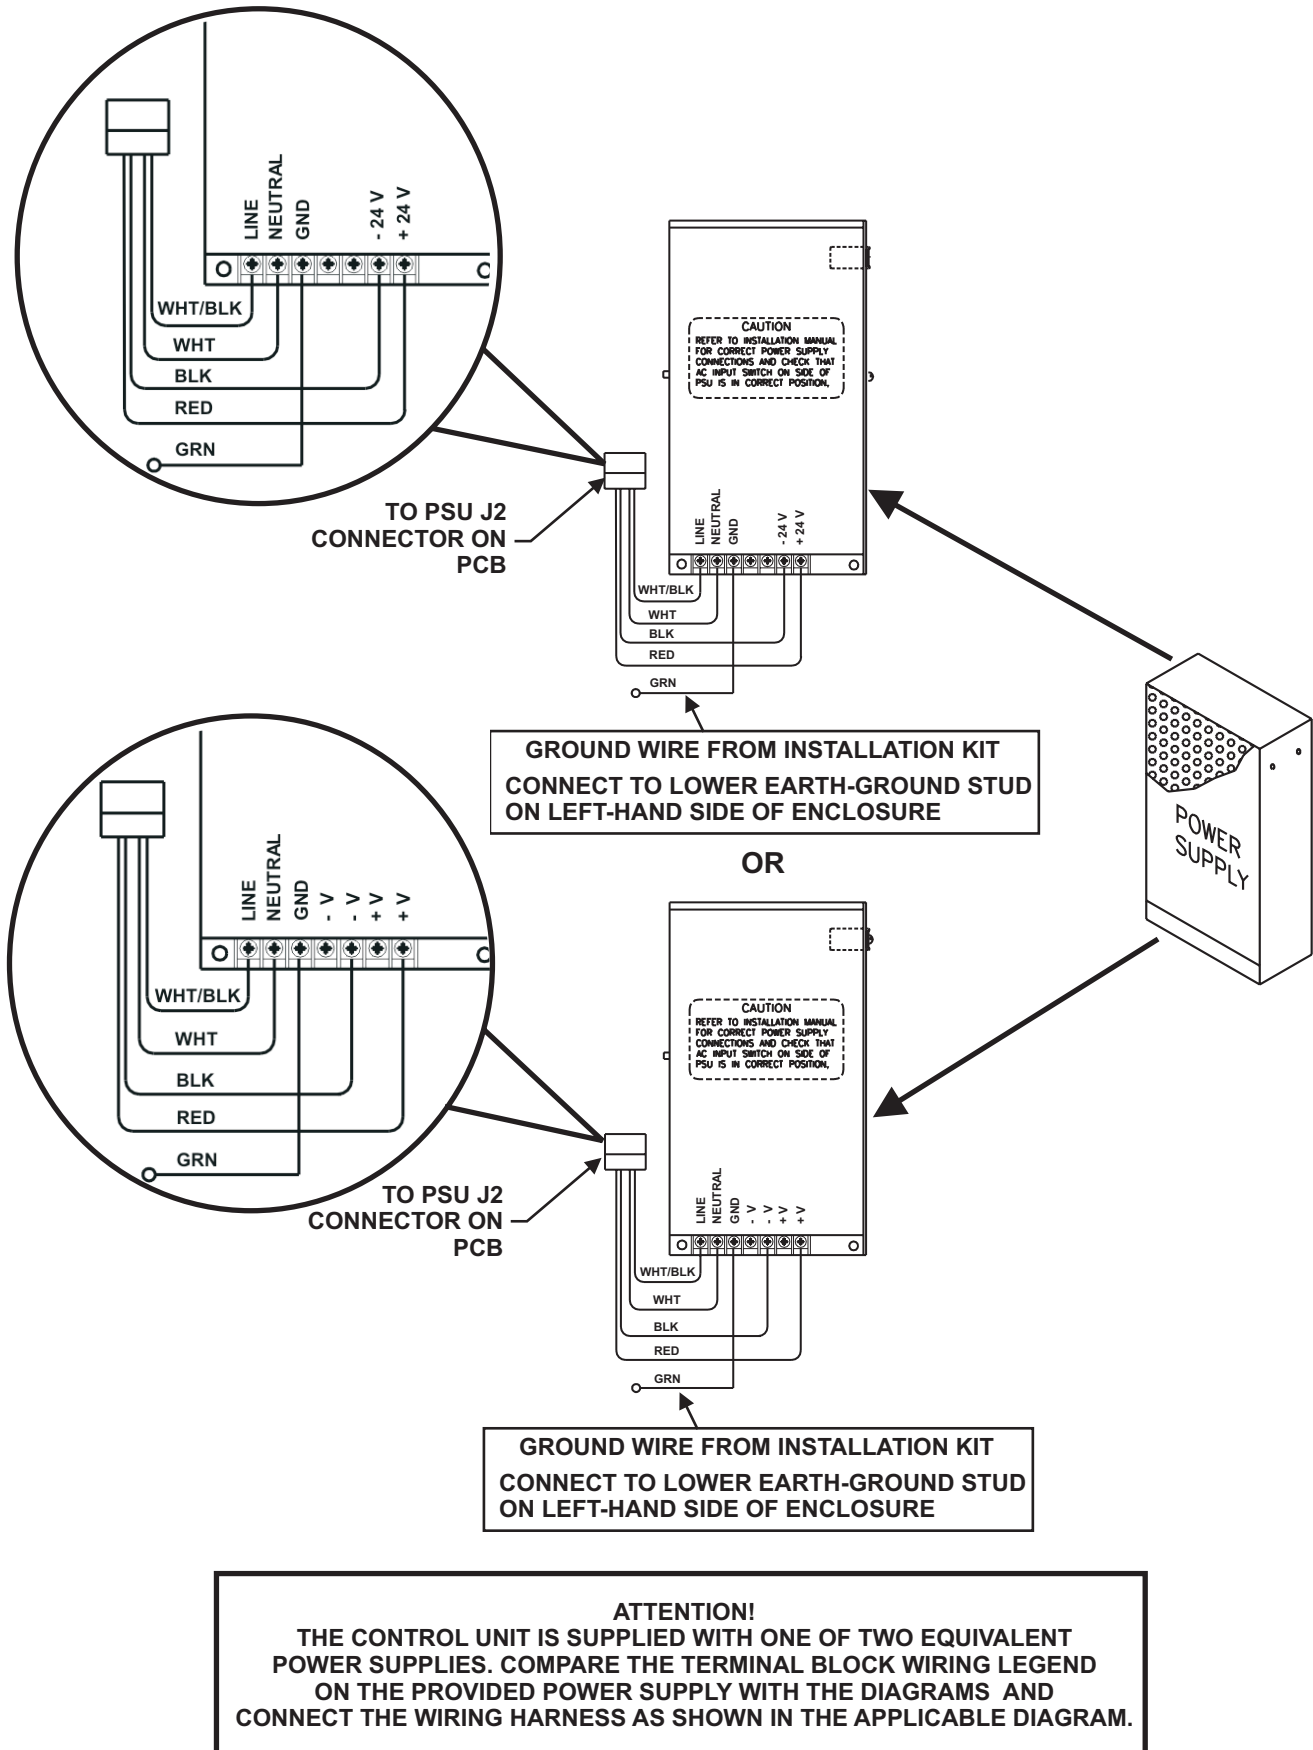
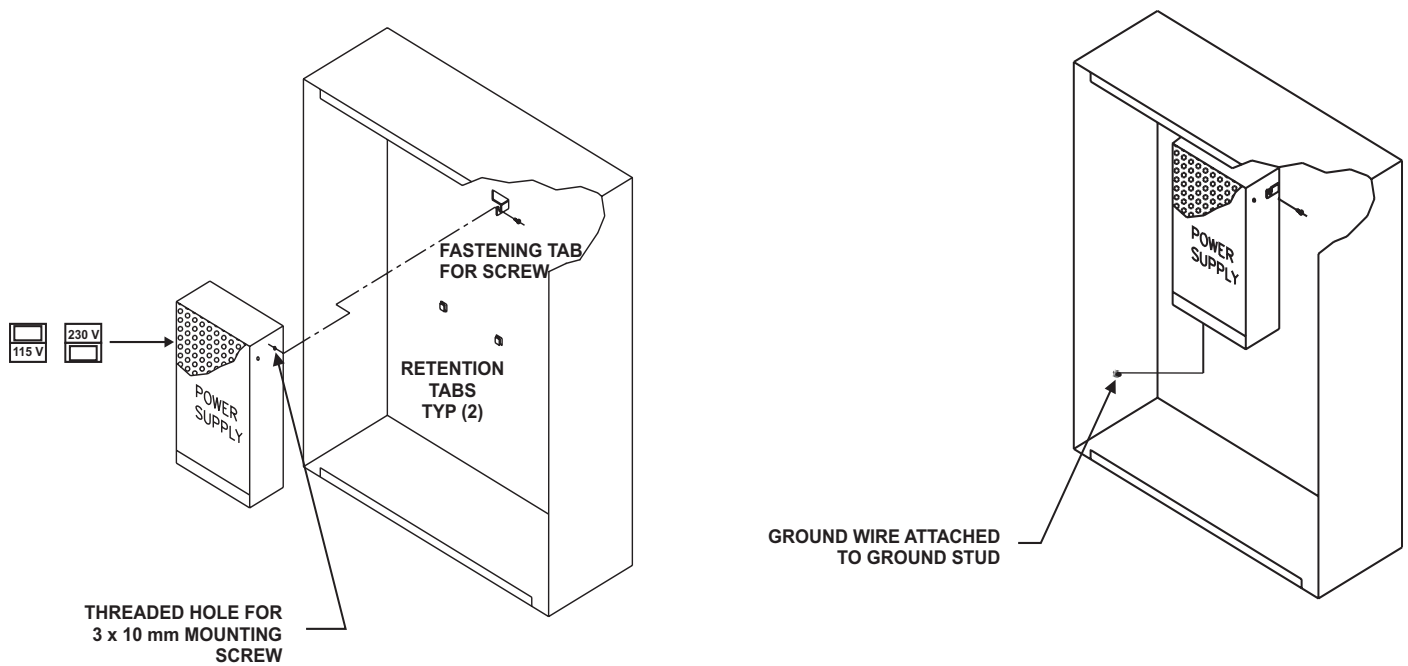

Figure 2-6. Power Supply Unit Wiring
Figure 2-7. Power Supply Unit Installation
3. The AEGIS unit is supplied with one of two equivalent power supplies. Compare the terminal block wiring legend on the provided power supply with the diagrams in Figure 2-6 and connect the wiring harness as shown.
4. Connect the Power Supply Wiring Harness (P/N 06-220025-001) to the power supply unit. Next connect the fork end of the green ground wire (P/N 06-129928-002) to the earth-ground terminal of the power supply unit. Refer to Figure 2-6 and Figure 2-7 for wire harness and earth-ground connections.
5. Thread the supplied 3 x 10 mounting screw part way into the lower of the two threaded holes of the power supply unit. See Figure 2-7.
6. Set the power supply unit AC-input-voltage selector switch to either 115 Vac or 230 Vac. Use the 115 Vac position for 110-120 Vac supplies and 230 V position for 230-240 Vac supplies. See Figure 2-7.
10. Connect the ring end of the power supply's green ground wire (P/N 06-129928-002) to the earth-ground stud on the lower left side of the backbox wall. See Figure 2-6 and Figure 2-7.